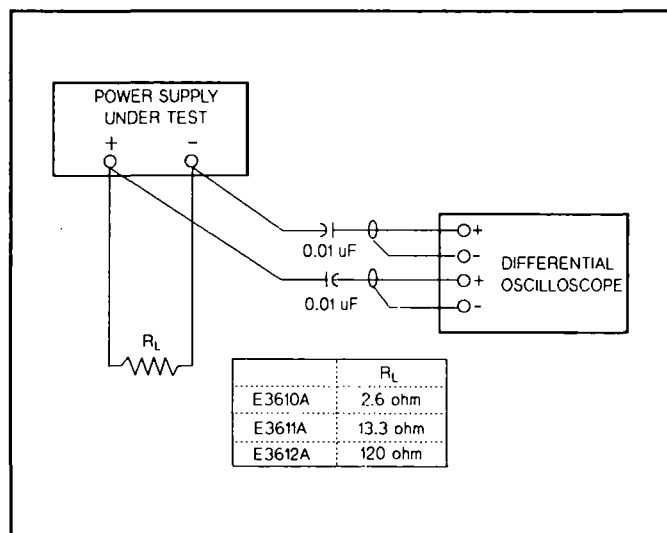

Figure A-5. Peak-to-Peak Measurement Test Setup
- Connect the test equipment as shown in Figure A-5.